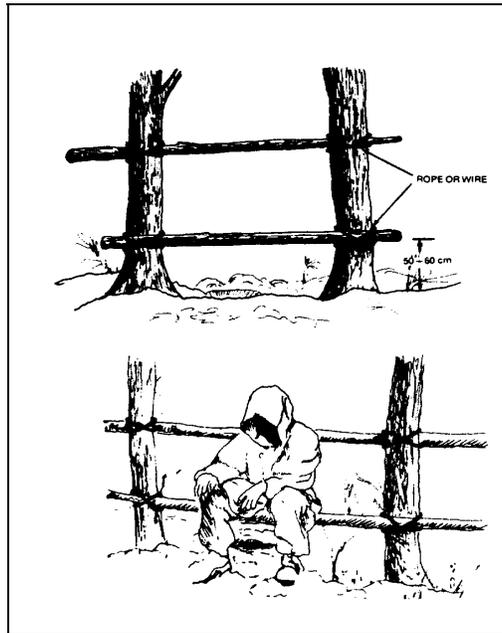

Figure 5: Cross Tree Type Latrine
(1) The preferred type of latrine for field use is a straddle trench. However due to environmental restrictions during training, or to solidly frozen soil, it may not be permissible or possible to construct a latrine of this type. Another type of latrine that is recommended for use is the cross tree type latrine, especially when used in conjunction with a ration case lined with trash bags. Once filled, the bags can be sealed, closed into the case, and burned or hauled to the rear to be properly disposed of (see figure 5).